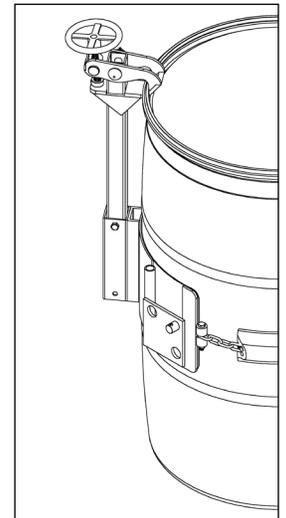

Figure 2.3
- The **Top Rim Clamp** (Kit # 4560-P) grips the upper rim of your drum to prevent it from slipping through the drum holder (see figure 2.3). You can use the Top Rim Clamp with a 55-gallon (210 liter) plastic, steel or fiber drum with suitable top rim.